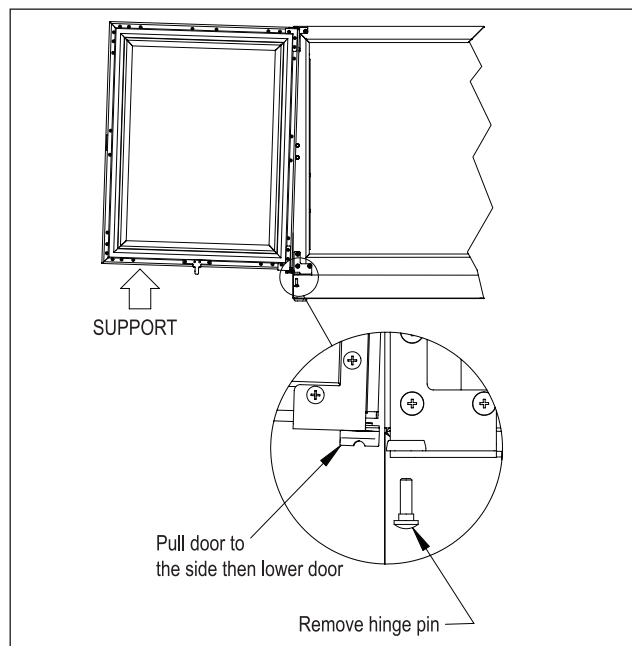

Figure 3: Door Removal
1. Support the door in the open position as shown in Figure 3. Remove the hinge pin.